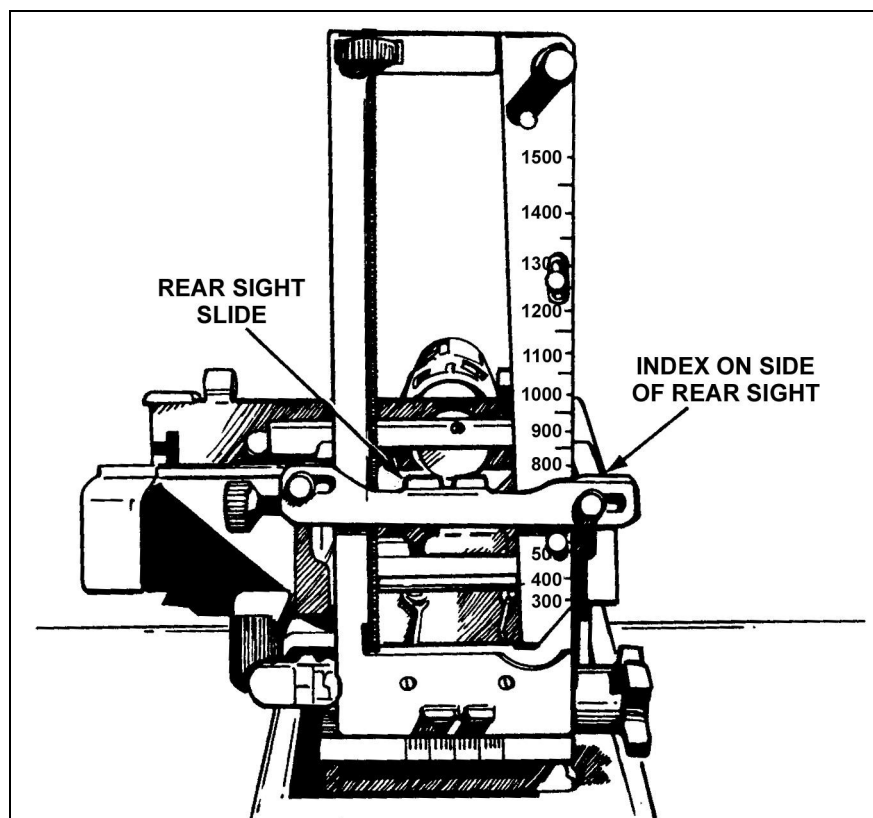

Figure 4-10. Rear sight adjustments.
b. **Sight Setting and Laying Exercises.** This first exercise teaches the soldier how to set the rear sight quickly and correctly (Figure 4-10). The second builds accuracy and speed in laying the gun on an aiming point, and allows extra practice in sight setting. Explain and show each exercise before beginning instruction.